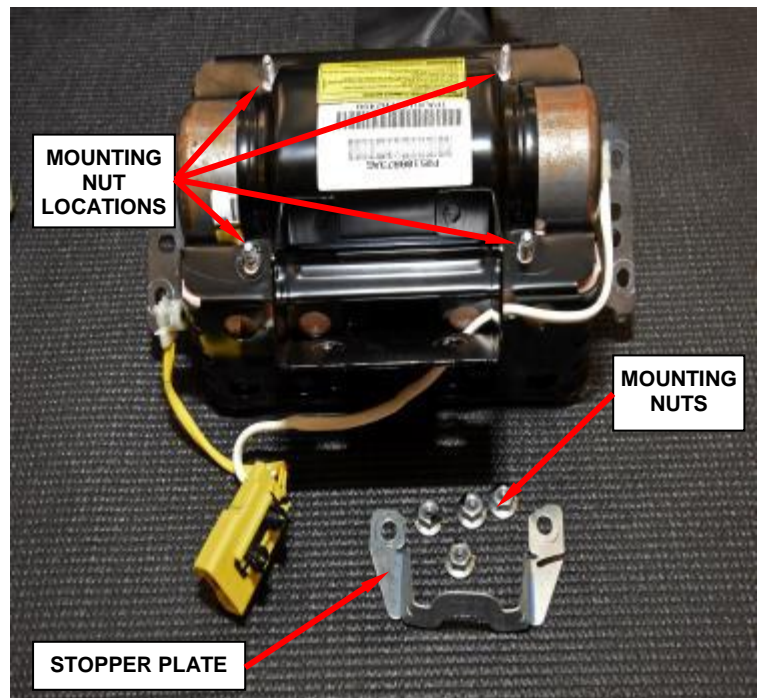

Figure 72 – Mounting Nuts and Stopper Plate
- e. Remove and **discard** the four inflator mounting nuts (Figure 72).